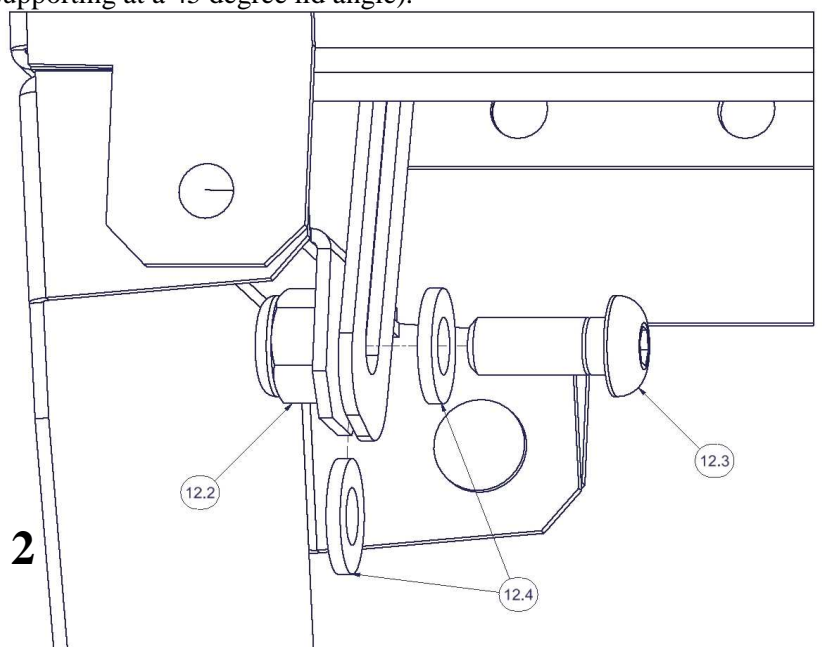

FIGURE 2
3. Assemble the lid support hardware, as shown in Figure 2. Tighten the hardware in small increments so that the lid remains supported as you require (usually self-supporting at a 45 degree lid angle).
NOTE: Second nylon washer (#12.4 shown below assembly in Figure 2) slips between moving slotted part, and stationary body.